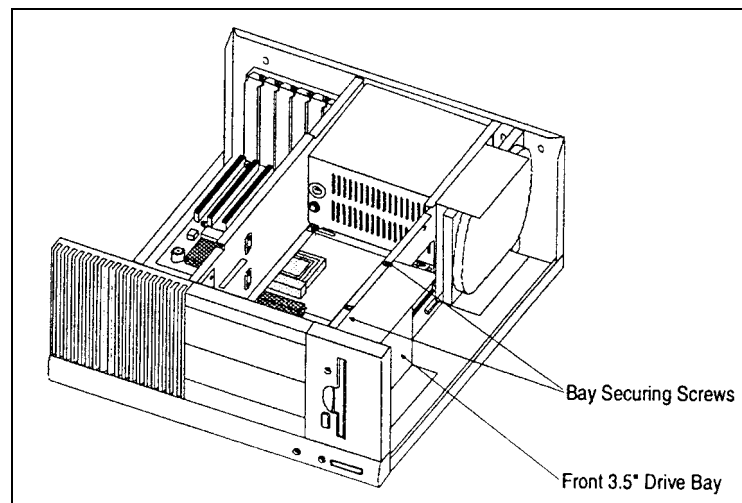

Figure 7-7. Front Drive Bay Securing Screws
4. Remove the two screws securing the drive bay (Figure 7-7).